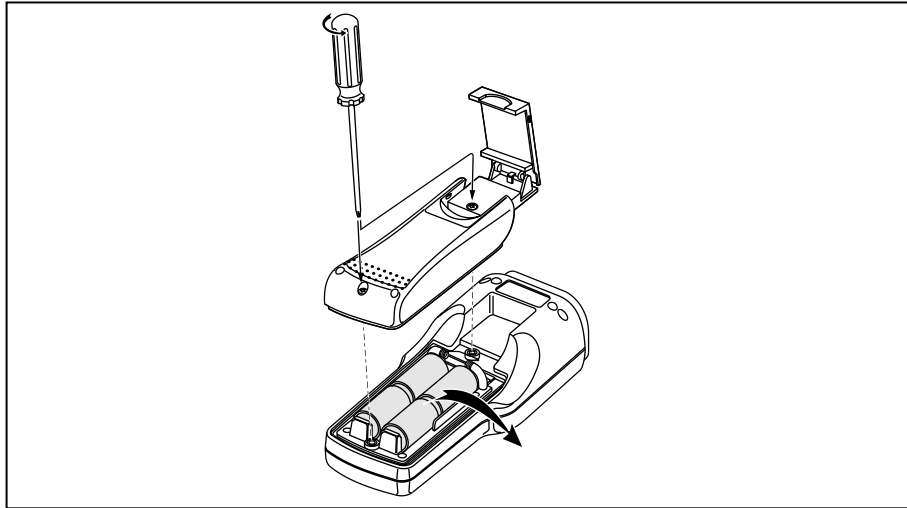

Figure 2. Replacing the Batteries
The Meter uses four alkaline C cell batteries (supplied). To replace the batteries, do the following (see Figure 2):
6. Replace the C cells as shown in Figure 2. Observe the battery polarity shown in the battery compartment.